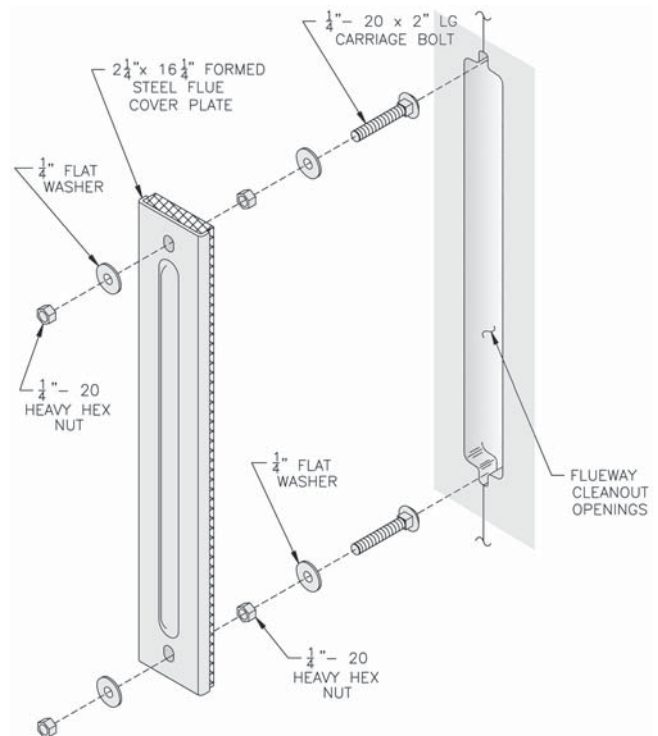

Figure 19: Flue Cover Plate Attachment
B. INSTALL FLUE COVER PLATES over cleanout openings on left side of boiler as shown in Figure 19. **See Important Product Safety Information on Page 21 of this manual, regarding refractory ceramic fiber product warning.**
- 2. Remove insulation from two (2) 3/8" diameter holes in flue cover plates using a 3/8" drill bit. Rotate bit through insulation by hand.